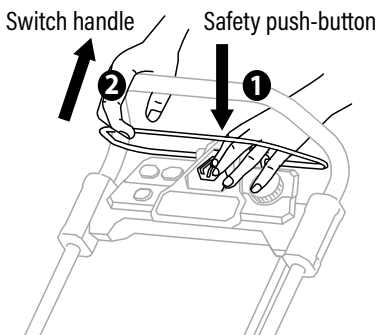

Fig. 6A
1. Press the safety push-button and pull the switch handle upward to the upper handle and keep it held in. (1,2, Fig. 6A)